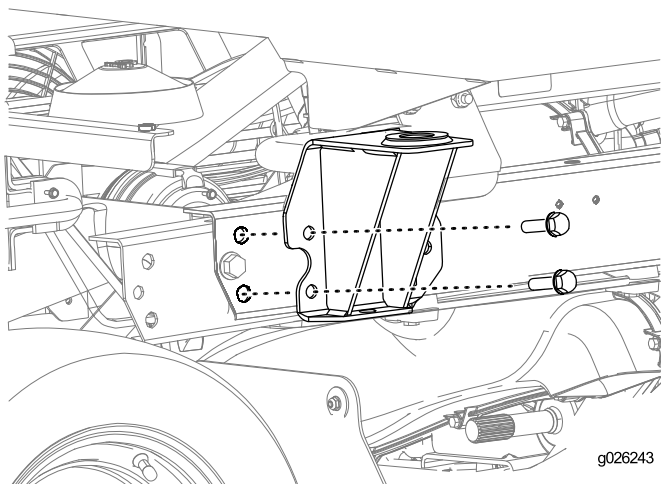

Figure 21
1. Install the rear brackets on the machine as shown in Figure 21, using the hardware removed from the ROPS in Removing the ROPS Assembly (page 6).